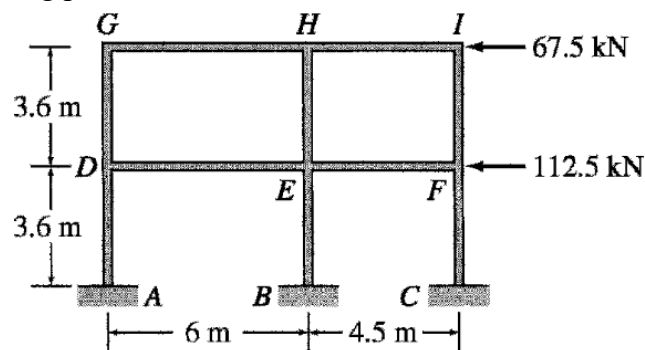

Fig. 6.1 Building frame
Q.7. Determine the approximate axial forces, shears, and moments for all the members of the frames shown in Fig.6.1 using portal method and cantilever method.